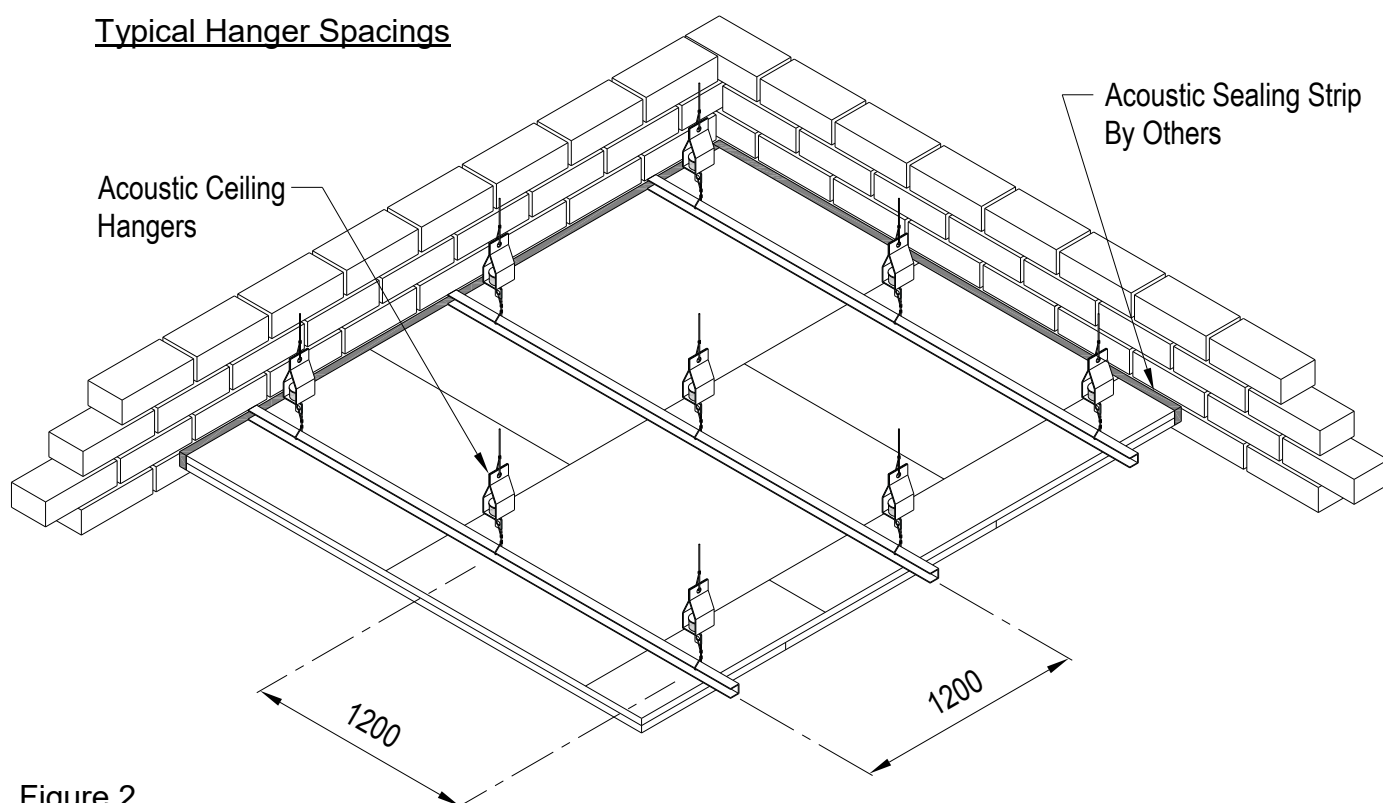

Figure 2
- 3) An example using two layers of 15mm thick Soundbloc or equivalent with a maximum ceiling load of 50 kg m2 will require 2 x ACH utilizing grid spacings of 1200mm (See Figure 2). This will provide approximate hanger deflections per m2 of 2mm for ACH/50 and 1mm for ACH/100.